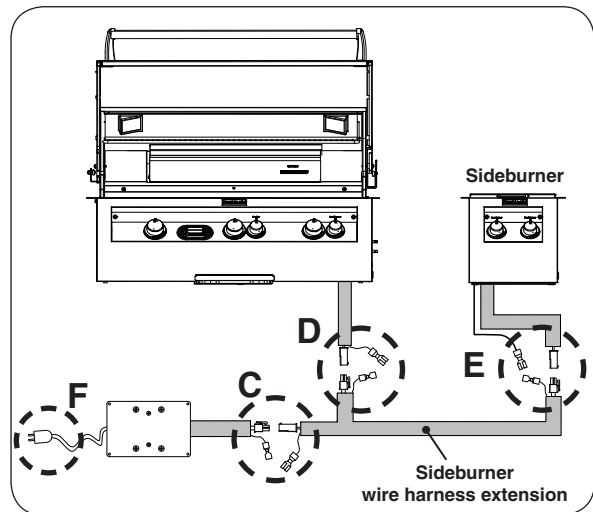

Fig. 20-3 Connect sideburner to grill setup
- Locate the end of the sideburner wire extension that has two molex and ground connections. Connect the extension (plug) molex connection to the power supply (receptacle) molex connection and ground wires (See Fig. 20-3, **C**).
- Connect the extension (receptacle) molex to the grill (plug) molex connection and ground wires (See Fig. 20-3, **D**).
- Connect the opposite end of the extension to the sideburner as shown in Fig. 20-3, **E** (molex and ground wire connections).
- Reconnect the power cord (see Fig. 20-3, **F**).